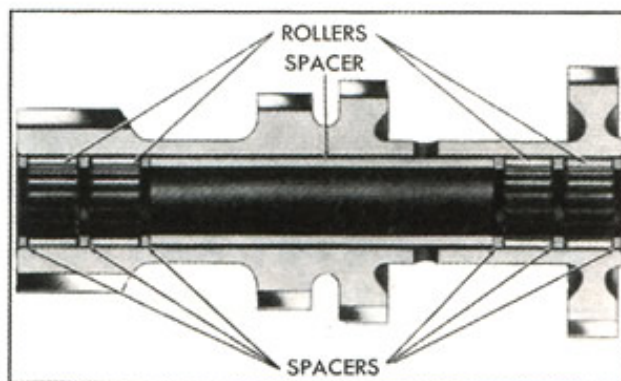

Fig. 16—Countergear Cross Section
2. Using heavy grease to retain rollers, install spacer, rollers, another spacer, and rollers, then a spacer. Repeat in other end of countergear (Fig. 16).